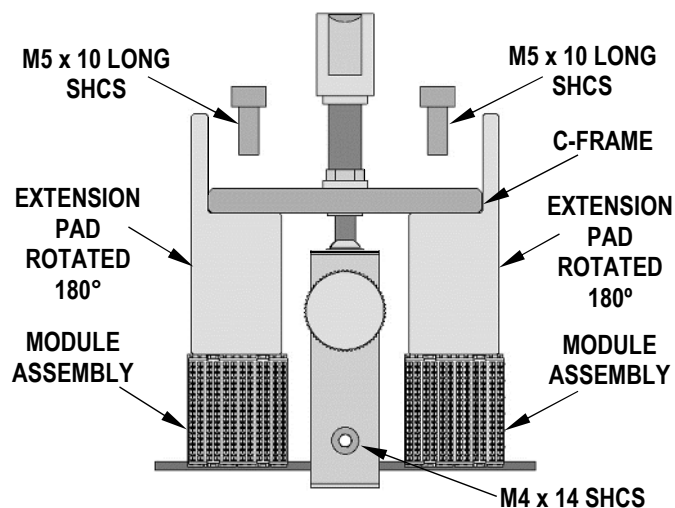

Figure 7
1. Remove the M5 x 14 long SHCS on each side where the extra modules are located. See Figure 7.